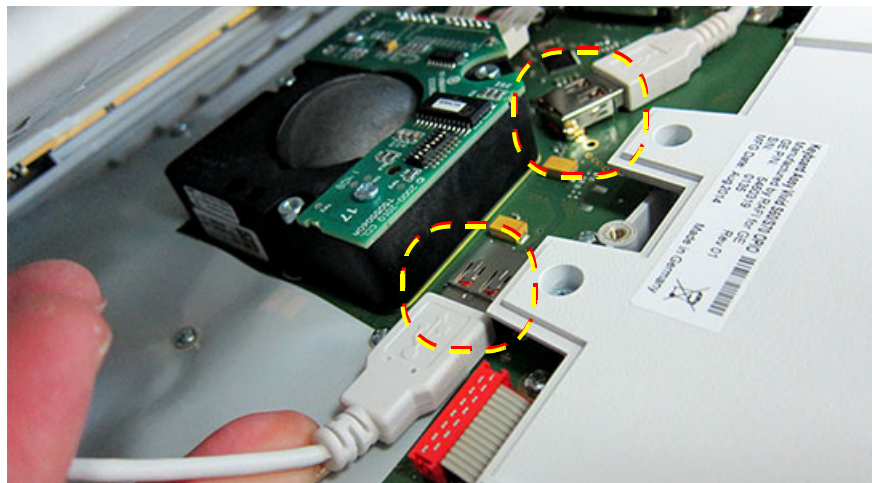

Figure 8-89 Installing Alphanumeric Keyboard/ Bottom Cover on Operator Panel Keyboard Assembly
- 1.) Holding the Alphanumeric Keyboard/Bottom Cover close to the Operator Panel Keyboard Assembly, carefully reconnect the two USB cables to the side of the trackball as shown in Figure 8-89 below..